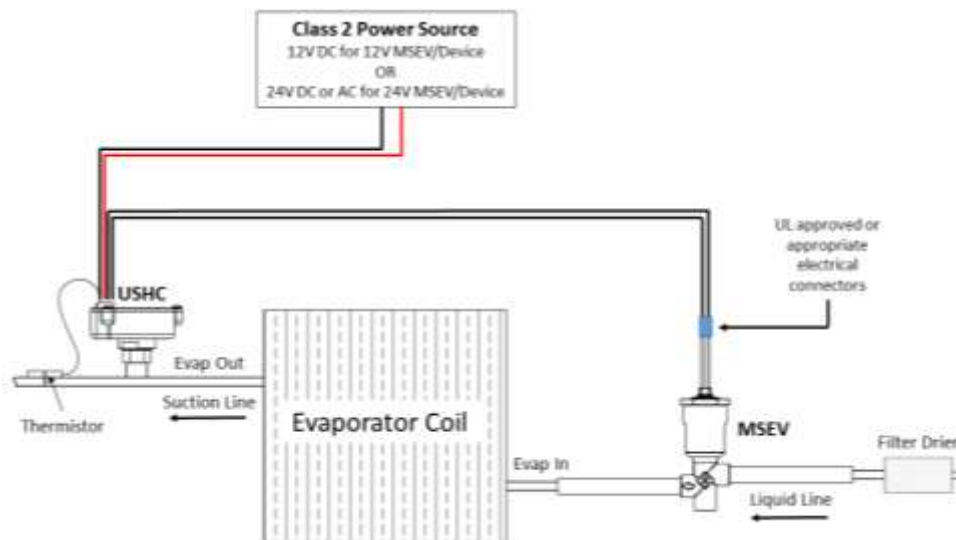

Figure 10 - MSEV and USHC installation schematic
This section describes the mechanical installation of the MSEV and USHX. Figure 10 below shows an example of a typical system the MSEV and USHX devices would be integrated into. Like conventional thermostatic expansion valves (TXVs) or electronic expansion valves (EEVs), the MSEV is installed at the inlet of the evaporator. The USHC, which drives and controls the MSEV, is installed at the outlet of the evaporator, in place of the TXV bulb or EEV controller sensing device. The MSEV and USHC are connected together by a wiring harness. A thermistor at the outlet of the evaporator measures the temperature, and the USHC is powered by the Class 2 power source.
7. It is mandatory to install a brand new filter drier at the inlet of the MSEV as indicated in Figure 10. It can be installed at about 6" away from the MSEV. The MSEV must be protected against contaminants to ensure its optimal operation.